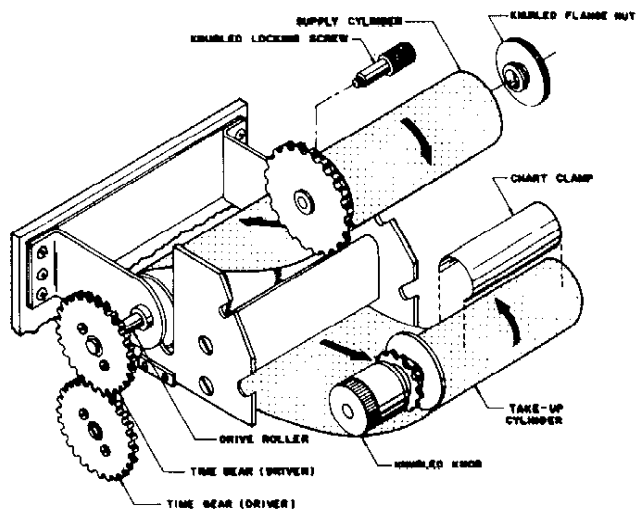

Figure 5. Chart Installation
(Model 61R)—See Figure 5
- 3.4.13 Thread the chart around the drive roller as shown in Figure 5. A diagonal fold across the end of the chart usually facilitates this step. After passing between the friction rollers (Figure 13-⑤) and drive roller, the chart should pass through the separation between the friction roller support plate and writing plate.
See Table 2 for a listing of time scales and corresponding gear sizes. See Figure 5 for the respective time gear positions. Note that these apply only to AC drive models. Chart speed changes on Quartz Timer units are achieved by using the selector switch on the front of the timer.
- 4.1.3 Replace the chart with a new chart whose graduations correspond to the new time scale. Refer to 3.4 and Figure 5.